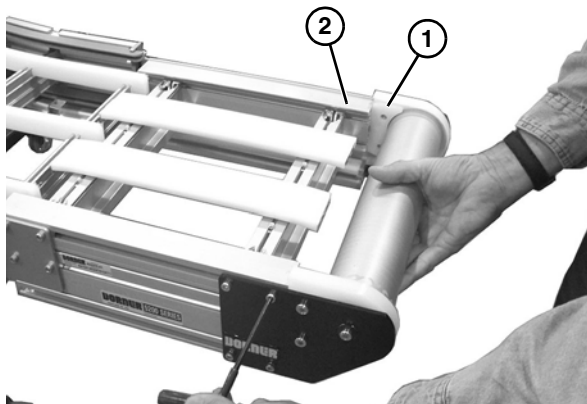

Figure 40
When reinstalling the idler spindle tail assembly, the idler terminal assembly (**Figure 40, item 1**) should mate flush with the conveyor frame (**Figure 40, item 2**).